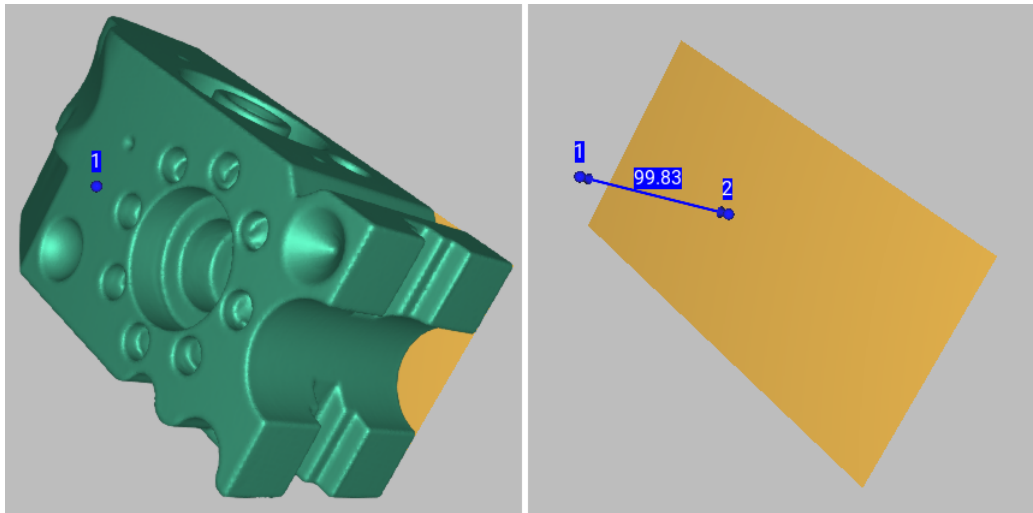

Figure 196: Thickness measurement: selecting a point on the side opposite to the plane (left), clicking the plane to determine distance to it (right).
1. In the *Construct* panel, build a plane (shown in orange in Figure 196) that fits the side surface of the model (find out in Constructing CAD Primitives how to do this).
4. Select any point on the side of the model opposite to the plane (Point 1 in Figure 196, left).
Artec Studio will automatically construct a perpendicular to the plane, determine the point of their intersection (Point 2 in Figure 196, right), and calculate the distance between the two points. This distance gives you the thickness of the model.